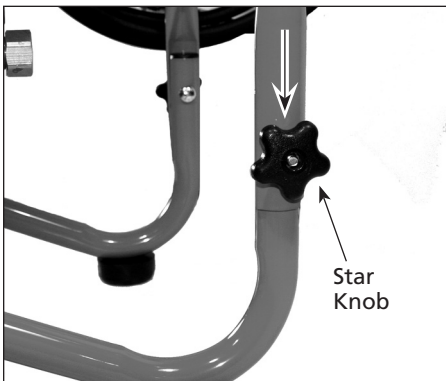

Figure 1 - Assemble Handle
1. Slide the handle assembly over the lower legs of the cart base. Use the star knob and bolt to secure the legs. See Figure 1.